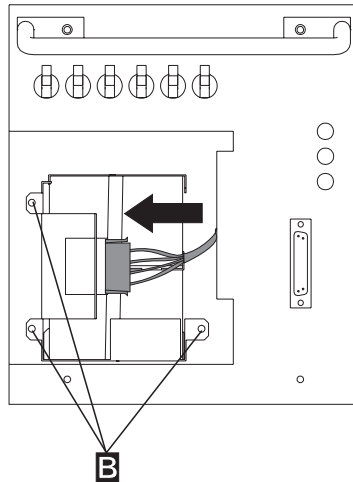

Figure 4-6. Battery Plug
3. \_\_\_\_ Connect the cable connector to the battery (see Figure 4-6 on page 4-8).